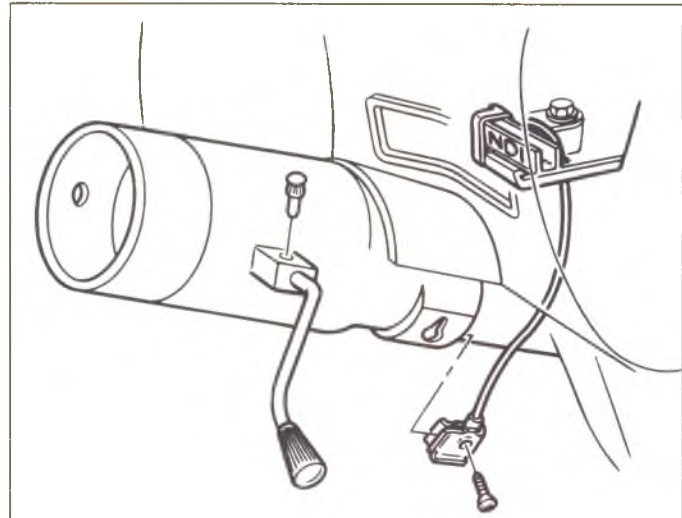

Fig. 61—Automatic Transmission Indicator Connection CK (Typical)
8. Remove the transmission indicator cable, if so equipped (fig. 61).